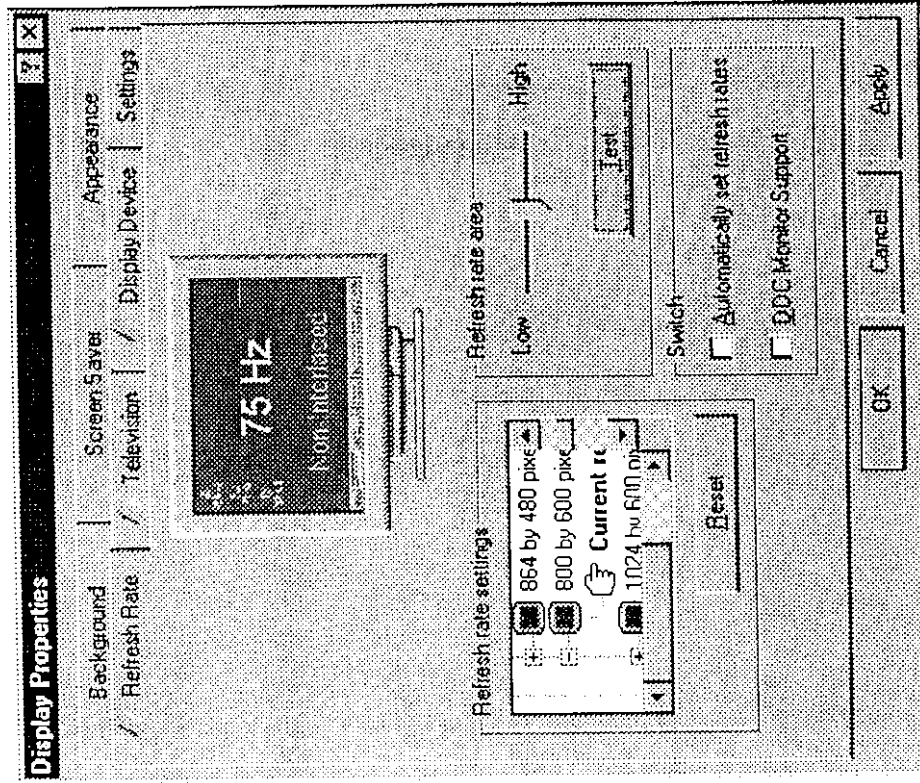

Figure 3-8.
9. SELECT the "K" button to close the "Color Device" window and to select the "Color Palette", "esktop Area", and "Refresh Rate" of your choice under the Trident accelerated driver (refer to Figure 3-8).